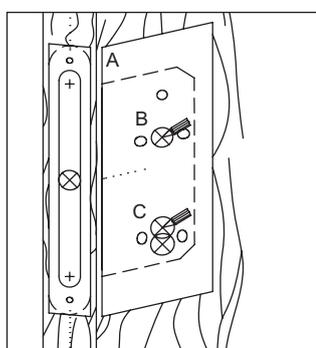

fig. 4
4. Mark the positions of the lever handle hole B and cylinder hole C. Drill an 17mm dia spindle hole through the door at position B*. Drill 20mm 2 holes at position C see fig 4.